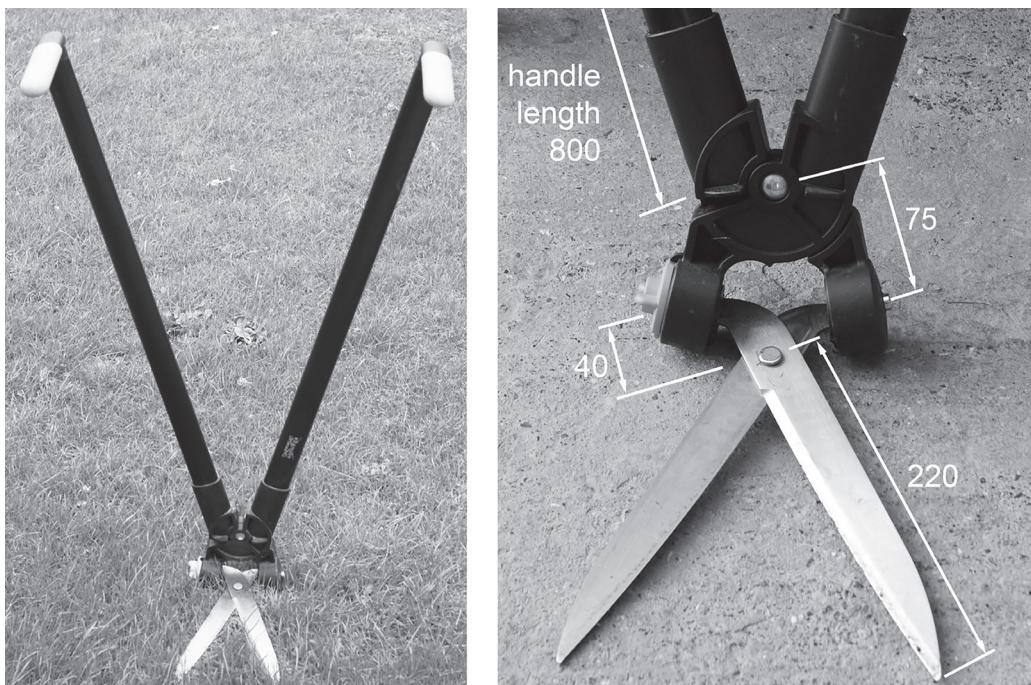

Fig. 12
- (d) Fig. 12 shows a pair of garden shears with a compound or double lever action.